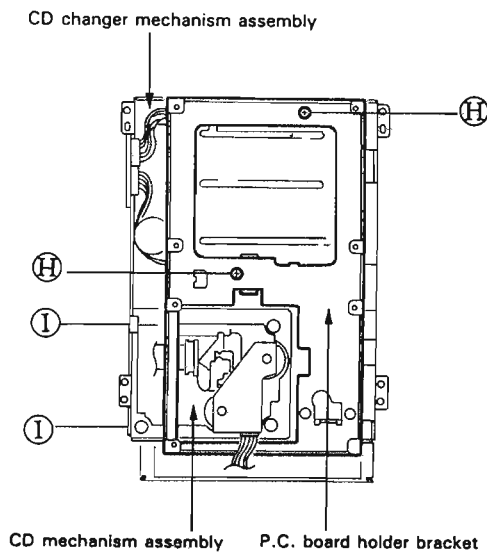

Fig. 10
2. After turning over the CD changer mechanism assembly, from the CD changer mechanism assembly, remove the 2 screws \textcircled{H} securing the P.C. board holder bracket. (Refer to Fig.10)